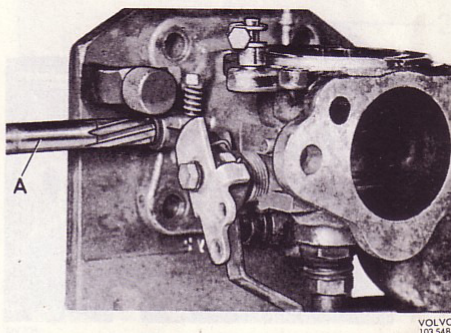

Fig. 20. Reaming the bush seat
2. Place fixture 2603 in a vice and clamp the carburettor in the fixture with hooks as shown in Fig. 20. For work on SU carburettors, use the larger stud on the fixture. Ensure that the hole in the stud aligns with the throttle spindle hole.
3. Ream the hole for the throttle spindle in the housing with reamer SVO 2400, Fig. 20. Do not pull the reamer backwards out of the hole, but instead loosen the support and push the reamer through the hole in the bottom plate in the same direction as reaming was carried out. If reaming is carried out in an upright drilling machine, then the lowest speed must be used and the reaming tool must be fastened in the